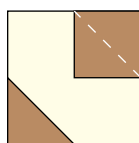
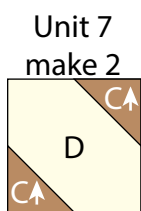

Fig. 12
Fig. 13
6. Follow Figure 12 for the seam direction to add a 2 ½" Fabric C square to the upper right corner of the 4 ½" Fabric D square to make (1) Unit 7 square (Fig. 13).